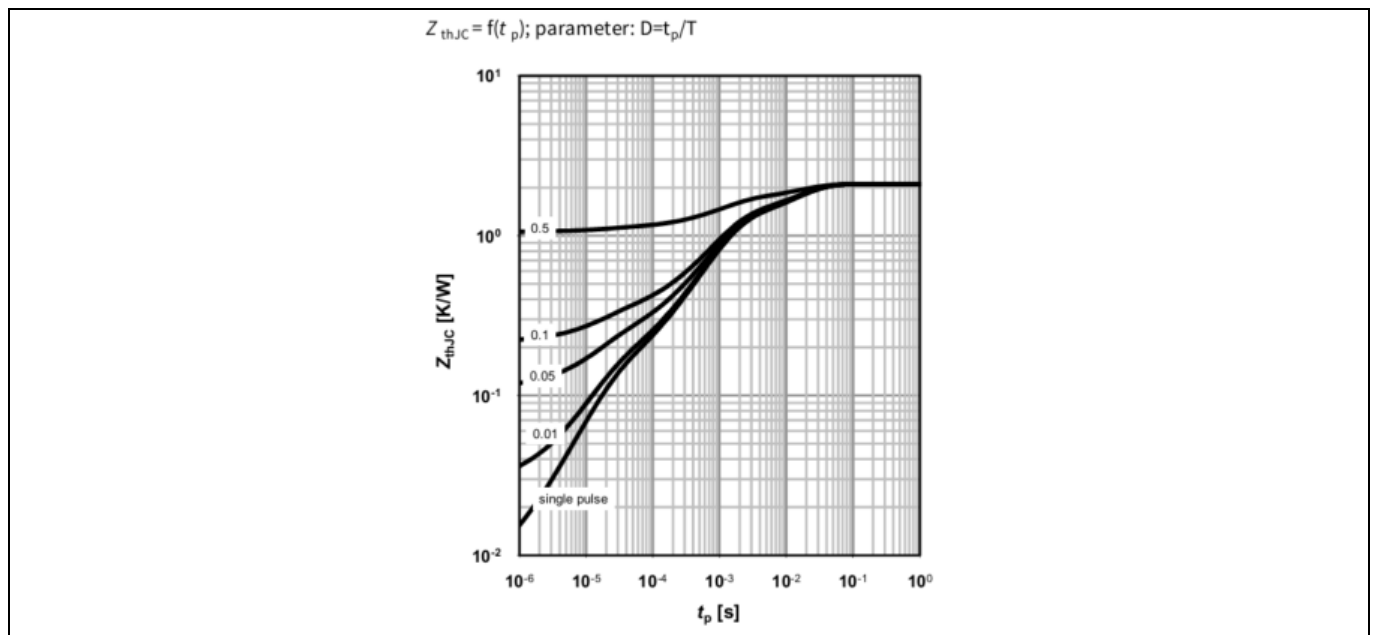

Figure 7 Maximum transient thermal impedance $Z_{thJC}=f(t_p)$
The transient junction-to-case thermal impedance Z_{thJC} takes the heat capacity C_{thJC} of the device into account. It can be used to estimate temperature raise caused by transient power losses. Depending on the pulse width t_p and the duty cycle $D = t_p/T$, thermal resistance varies over a wide range and its behavior is specified as a diagram in the datasheet as seen in Figure 7. The junction temperature increase can be calculated by the following equation (4). $T_{J,start}$ is equal to T_C at thermal equilibrium before the power pulse is applied.